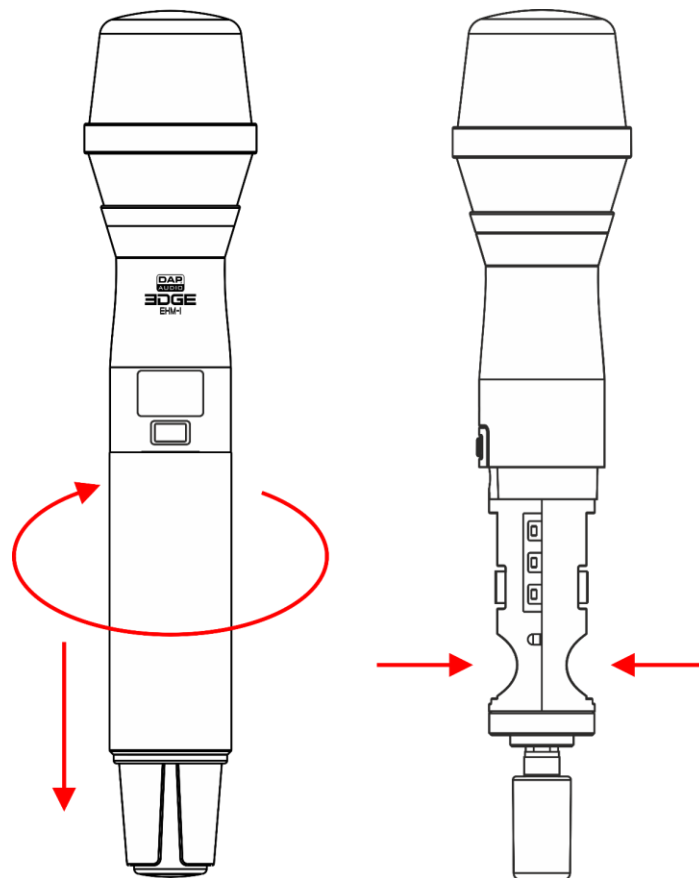

Fig. 12
- 01) Turn the **battery cover (19)** counterclockwise to remove it.
- 02) Insert the batteries into the **battery housing (23)** (Fig. 12). The transmitter operates with 2 x AA LR6 (alkaline) batteries. The batteries are not delivered with the product.
- 03) Install the **battery cover (19)** again on the transmitter. Do not overtighten.